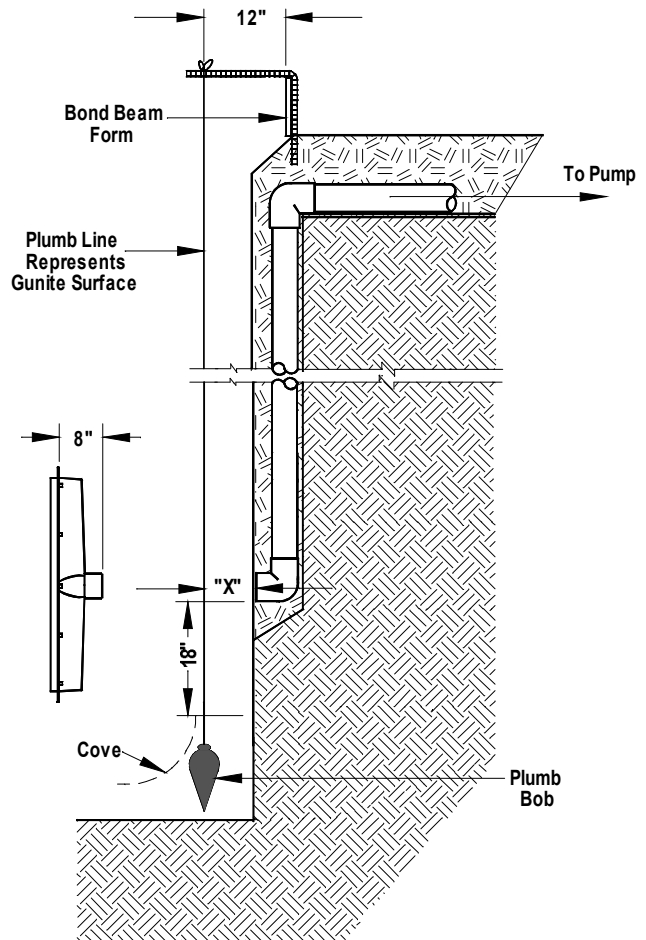

Figure 1
1. The side wall Channel Drain should be located in the wall near the deepest part of the pool and mid-way down that wall. Since the Channel Drain is 32 inches long, the 90° Ell that feeds the drain must be at least 18 inches above the top of any cove (see Figure 1)
2. Dig a niche down the wall of the pool at the desired location of the Channel Drain. The niche must be at least 12 inches wide and the back of the niche must be 12 inches to 14 inches from the final finish surface of the pool (see Figure 1).
3. To determine the correct depth of the niche, drop a plumb line 12" from the front of the bond beam form. This line will represent the gunite of shotcrete wall surface. (See Figure 1 that illustrates a plumb line tied to a rebar bent and extending over the bond beam form.)